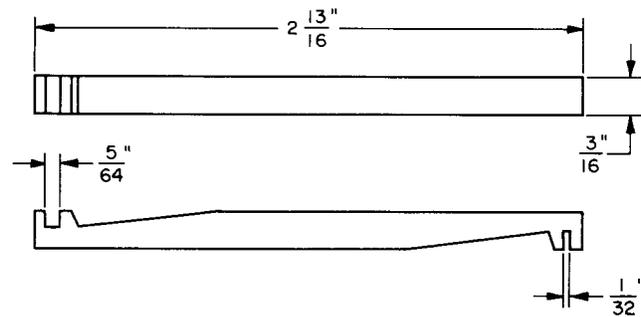

Fig. 7—179 Adjuster Tool
2.07 **179:** The 179 tool (Fig. 7) is a spring adjuster used to adjust contact springs on the 197- and 198-type switches, 50-type dial testers, and power driven rotary selectors.